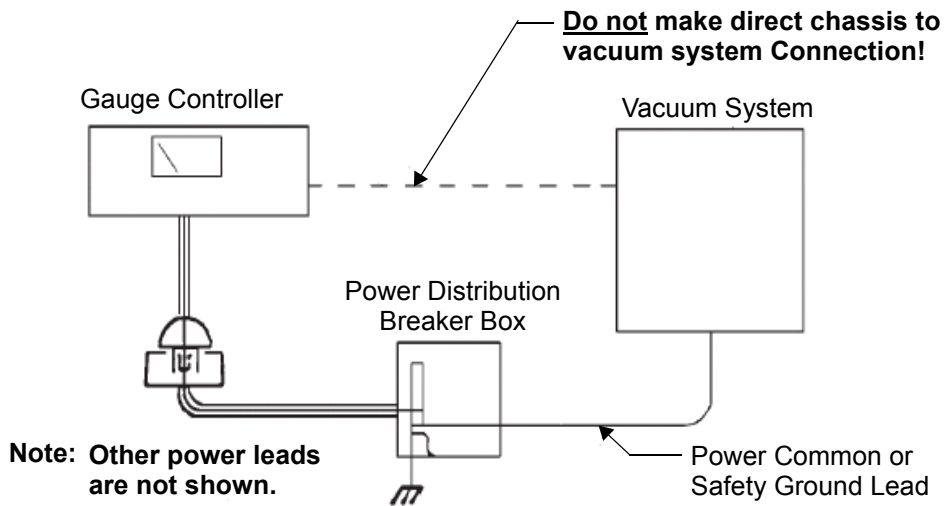

Figure 1 Ion Gauge and Vacuum System Connections
- ❑ Make absolutely sure that the vacuum system is grounded as shown in Figure 1.